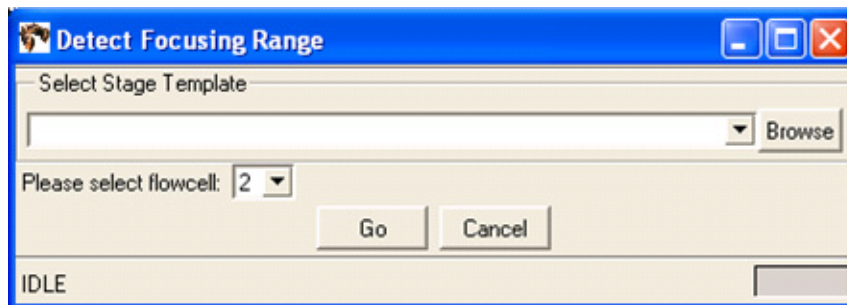

Figure 39 Detect Focusing Range dialog.
3. In the focusing range dialog, specify the stage template file by entering the name directly or by clicking the **Browse** button to navigate to a suitable one (see Figure 39). The stage template must match the slide in the target flowcell(s). If you created a run from the ICS, then select the file **imagingMap.STG** from the subdirectory in C:\Runs whose name matches the name of the run (for example, select C:\Runs\Solid0327_20081209_2_Oct_Test\imagingMap.STG).